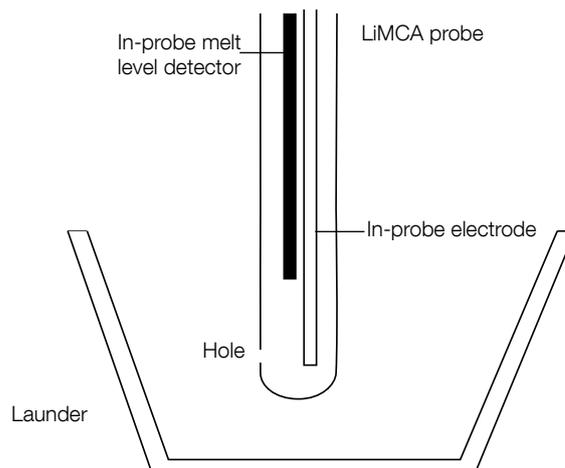

Figure 42: Probe level positioning in the launder
- Very slowly, continue to insert the probe into the metal using the manual control up/down knob. The probe should be inserted until the lower end of the metal thermocouple is at the surface-level of the metal (see Figure 42). Insert the probe at the rate of 1/2 inch (1 cm) per 15 seconds.